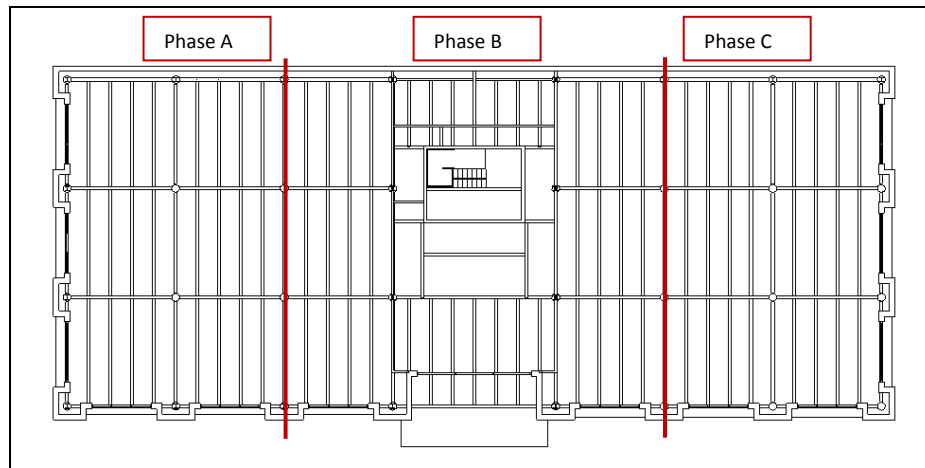

Figure 2: Phases of Construction
You are given a base schedule (in .CSV format) showing you the task IDs for different activities in the schedule. The start date for construction will be **February 1, 2017**. Total duration of the activities is also given. You are required to; i) figure out the dependencies/sequence of these activities (by defining predecessors of each one); and ii) divide the construction of columns and beams into phases (see Figure 2) for shorter total construction duration. Assume that there is one team available for each activity (eg. 1 team for erecting steel columns). As a result, you will achieve an improved fast-track schedule that aims at completing the project in a shorter time frame.
8. Use three phases as seen in the Figure 2. Create your new schedule in Excel based on the given CSV file. Create new IDS for 3 phases for i) columns and ii) beams (called structural framing – girder and joist) only. Total duration for component construction should not change. (Eg. Level 1 columns should be constructed in 6 days but total duration will be divided into three phases, 2 days each).